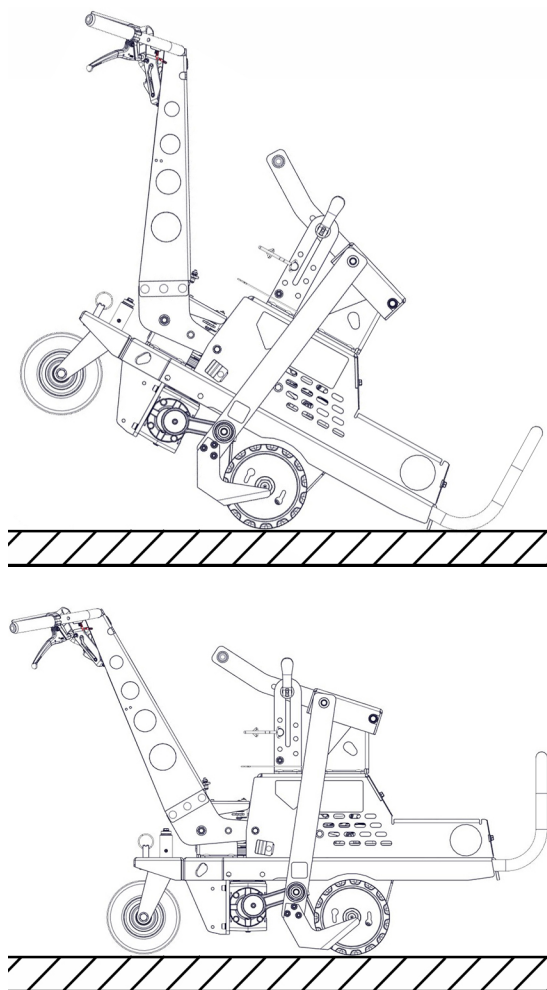

Fig 9.
TIP: When using the machine for the first time, execute maneuvers on flat ground free of foreign objects to become more comfortable with machine operation. After switching on the engine, follow the instructions given in the previous paragraph. Be mindful of the machine tipping forward (See Figure 9. on the following page).
2. Holding both handles, fully engage the blade clutch lever on the operator's left hand side. Rocking back on the handles, allow the blade to cut into the sod to your chosen depth. Keep the blade clutch lever fully engaged at all times when cutting (see *Fig. 9*).